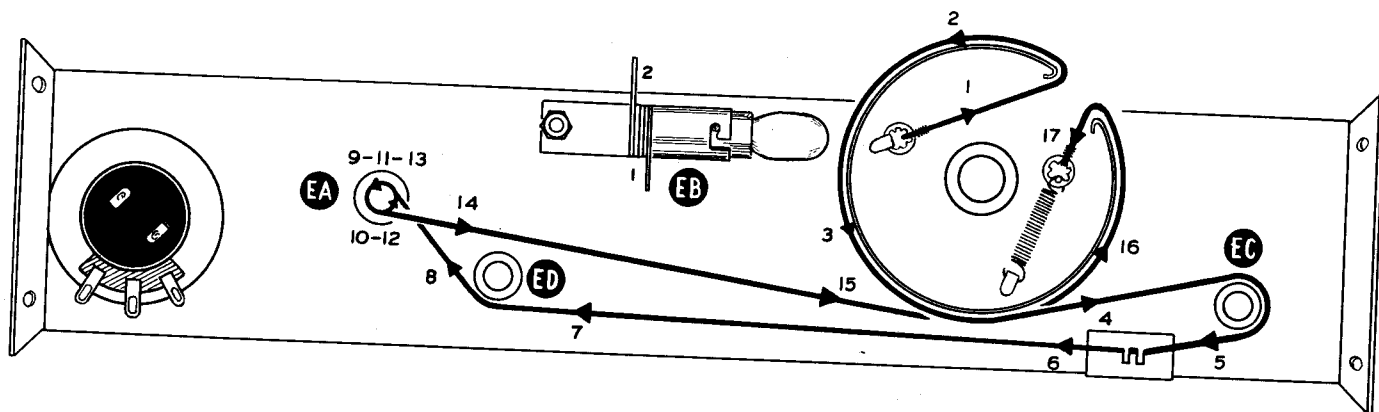

Figure 17
- (✓) Observe Figure 17 and install the dial cord assembly. Begin by hooking one of the eyelets over the ear provided on the tuning drum. Run the cord counterclockwise around the pulley (looking from the back of the tuner), around idler pulley EC, around drive shaft EA 2 1/2 turns and back to EC, across the dial plate to idler pulley ED, around the drum and through the opening. Hook the dial cord spring on the remaining ear on the drum and the other end of the spring to the eyelet on the dial cord.
- (✓) Cut two wires to a length of 2 1/2". Strip and tin all four ends and twist the two wires together. At one end, connect one wire to socket D3 (S) (4) and the other to D4 (S) (3). At the opposite end, connect one wire to pilot light socket EB1 (S) (1) and the other to EB2 (S) (1).